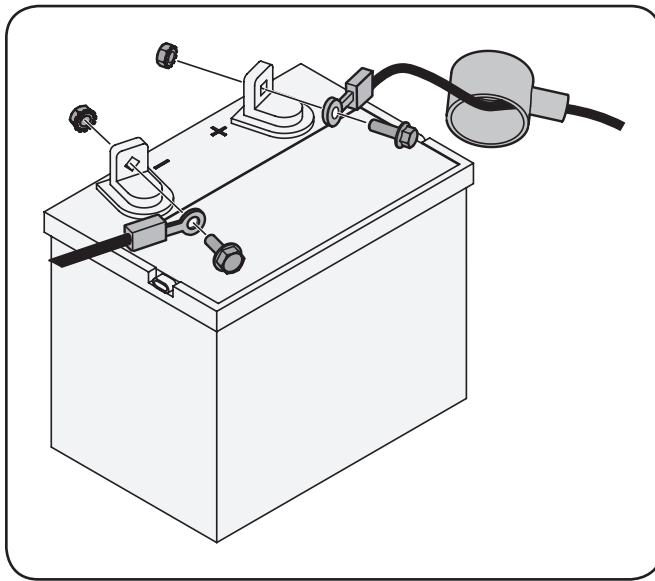

Figure 3-2
1. Remove the plastic cover, if present, from the positive battery terminal and attach the red cable to the positive (+) battery terminal with the bolt and hex nut. See Figure 3-2.
2. Remove the plastic cover, if present, from the negative (-) battery terminal and attach the black cable to the negative (-) battery terminal with the bolt and hex nut. See Figure 3-2.